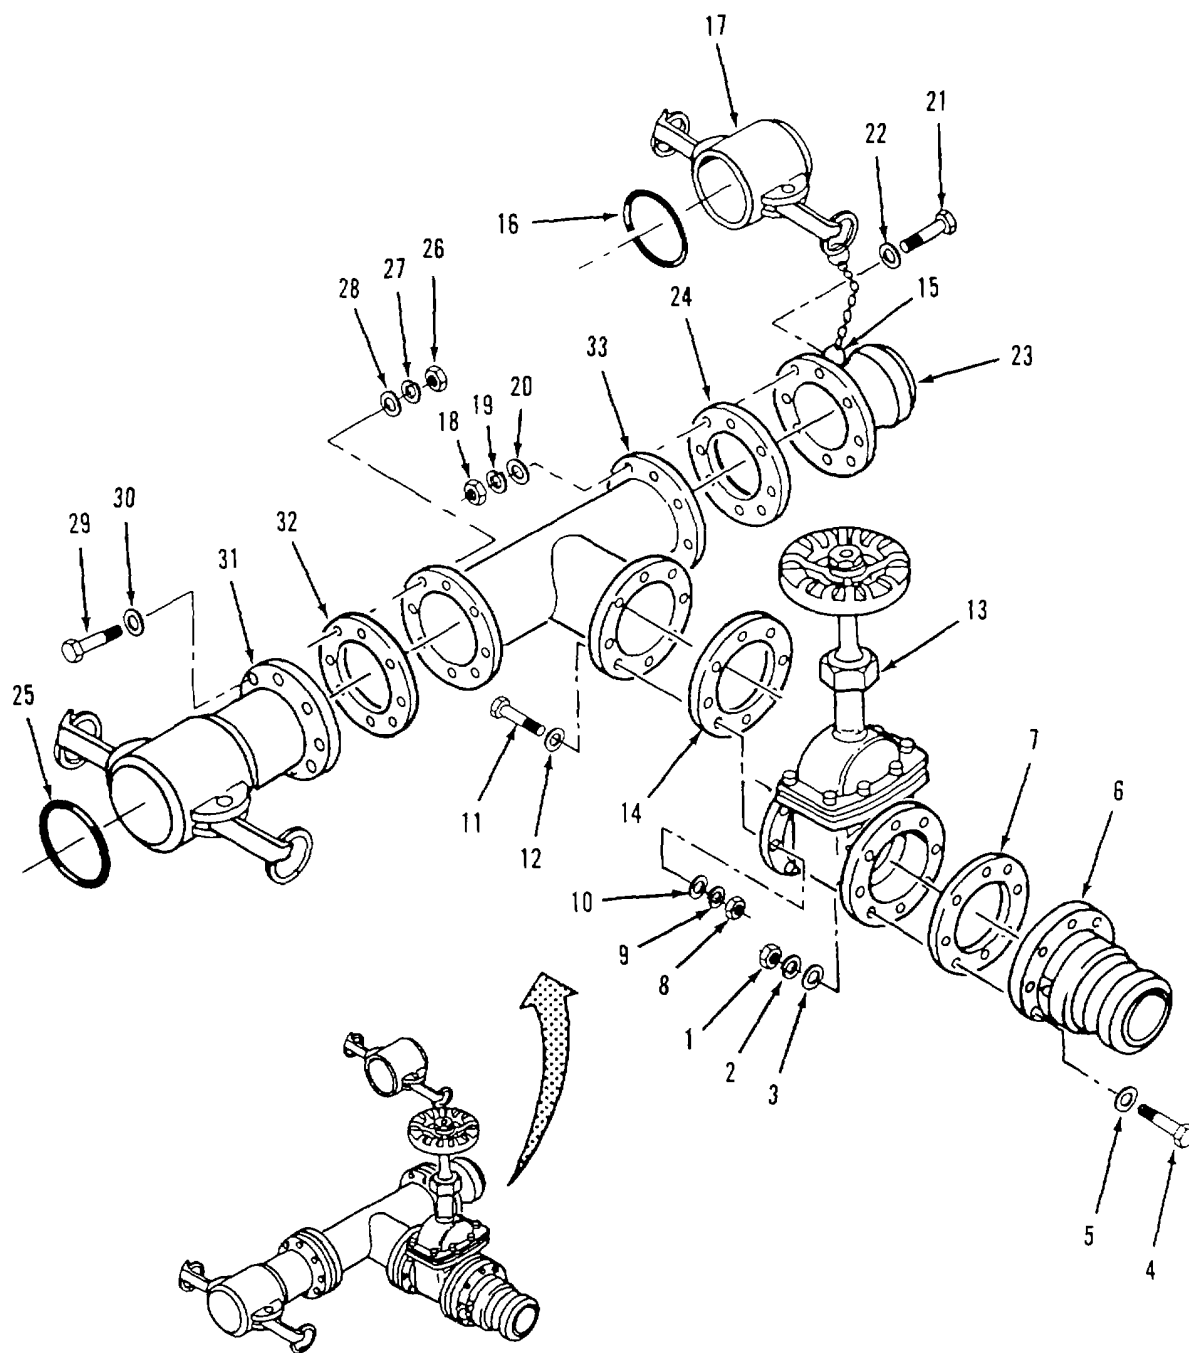

Figure 4-33. Tee and Gate Valve Assembly (9114-Y2) Disassembly.
- a. Disassembly. Refer to figure 4-33.
- (1) Remove eight nuts (1), lockwashers (2), flat washers (3), screws (4) and flat washers (5).
- (2) Separate male coupling (6) and gasket (7) from gate valve (13).